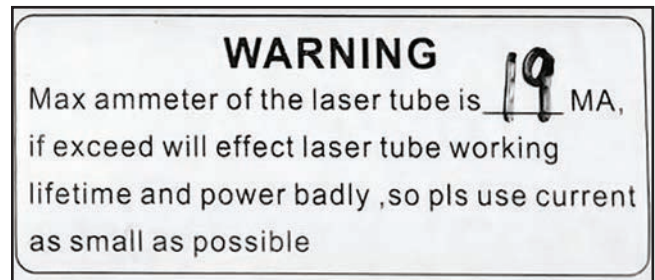

Figure 49. Example of ammeter mA rating.
16. During operation, verify ammeter indicator does not exceed mA rating listed above ammeter (see **Figure 49**).